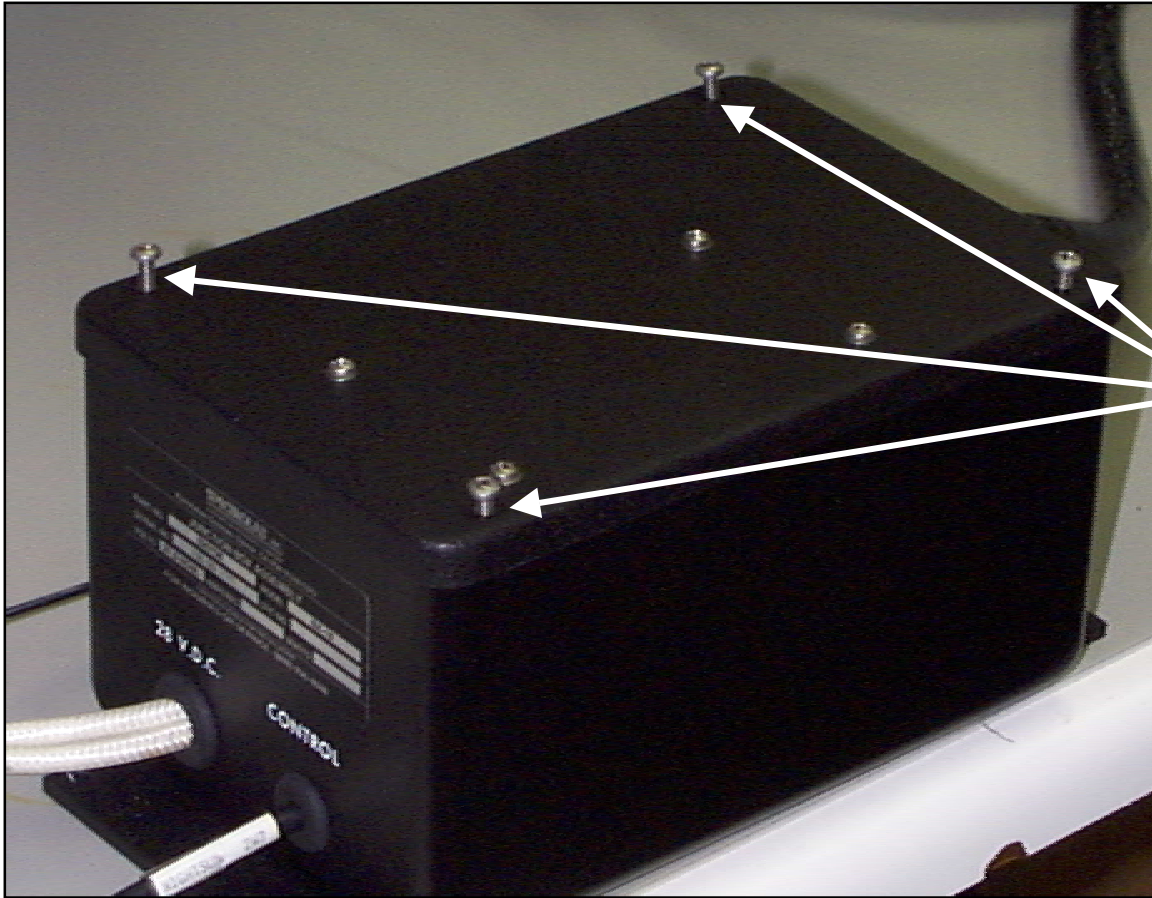

Figure 1
3. Remove the four Phillips head machine screws holding the cover onto the Junction Box, as shown in Figure 1.